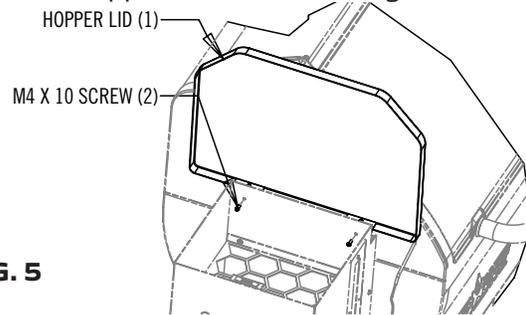

FIG. 5
1. Install hopper lid as shown in Fig. 5.